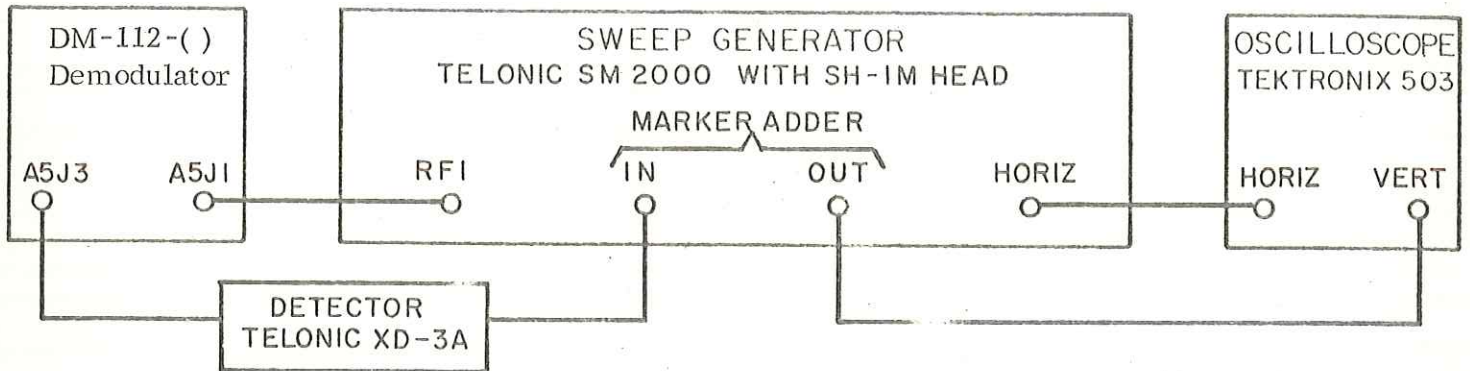

Figure 4-4. Test Setup, 160/21.4 MHz Converter Alignment (A5)
- (1) Connect the equipment as shown in Figure 4-4.